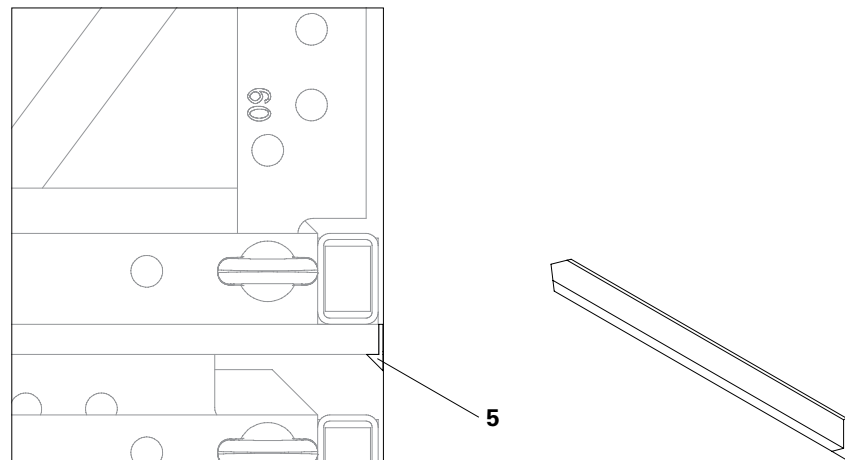

Fig. A3.01
Before assembly takes place, a Chamfer Strip QDL (5) must be attached to the long side of the formlining. This can be carried out when stacked. (Fig. A3.01)